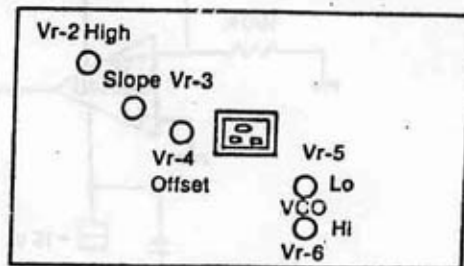

Fig. 2 Rear Pannel
- Slope Adjustment Ref. FIG. 2**